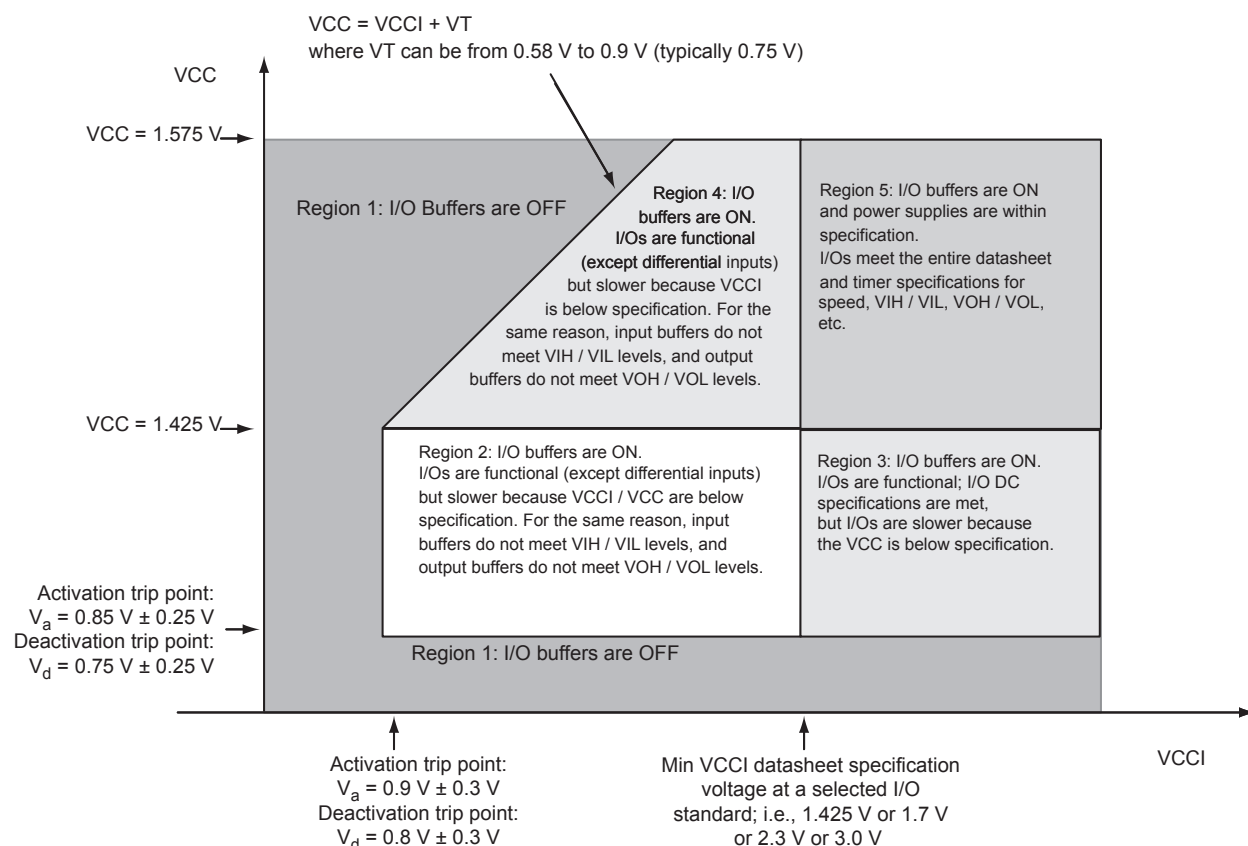

Figure 2-1 • V5 Devices – I/O State as a Function of VCCI and VCC Voltage Levels
Sophisticated power-up management circuitry is designed into every IGLOO PLUS device. These circuits ensure easy transition from the powered-off state to the powered-up state of the device. The many different supplies can power up in any sequence with minimized current spikes or surges. In addition, the I/O will be in a known state through the power-up sequence. The basic principle is shown in Figure 2-1 on page 2-4.
1. VCC and VCCI are above the minimum specified trip points (Figure 2-1 and Figure 2-2 on page 2-5).
Microsemi recommends using monotonic power supplies or voltage regulators to ensure proper power-up behavior. Power ramp-up should be monotonic at least until VCC and VCCPLX exceed brownout activation levels (see Figure 2-1 and Figure 2-2 on page 2-5 for more details).